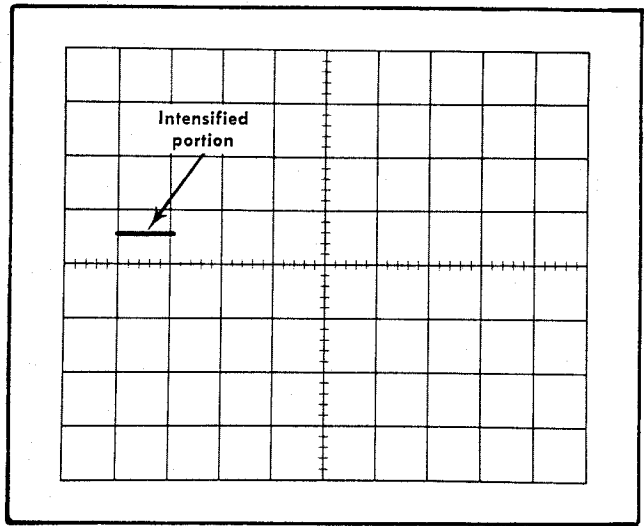

Fig. 5-10. Typical CRT display showing correct intensifier circuit operation.
- c. CHECK—It should be possible to adjust the INTENSITY control so that only the intensified portion of the delaying (normal) sweep is visible on the CRT screen. See Fig. 5-10.